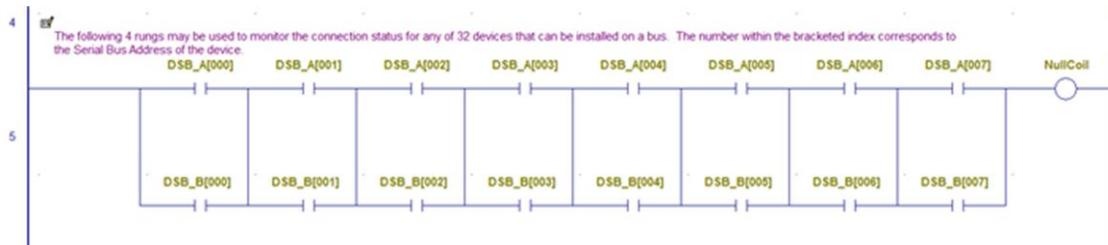

Figure 30: Monitor SBA Connection Status
**Device Status Bits** Zoom into the block to observe the current connection status for all configured Genius devices on the dual bus pair. Four rungs display the device status on **Bus A** and **Bus B**. The index inside the brackets correspond to the Genius Serial Bus Address. Figure 30 demonstrates the logic for monitoring SBA 0 through 7, so it needs to be expanded to cover the entire bus.